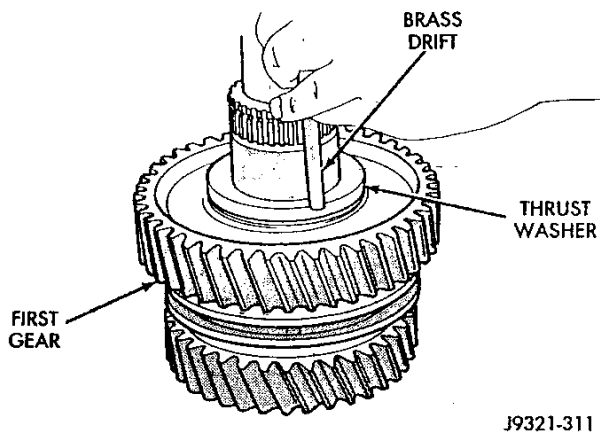

Fig. 45 First Gear Thrust Washer Installation
(14) Install first gear thrust washer (Fig. 45). Washer is tight fit on shaft. Either heat washer in oven to ease installation, or use pipe tool or brass drift to press washer onto shaft and against gear.